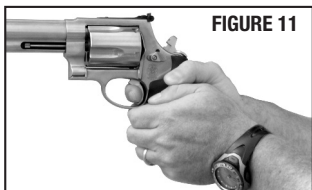

FIGURE 11
- Always use the proper grip as shown for a two-hand hold (FIGURES 11 & 12). This keeps hands and fingers away from the barrel/cylinder gap.